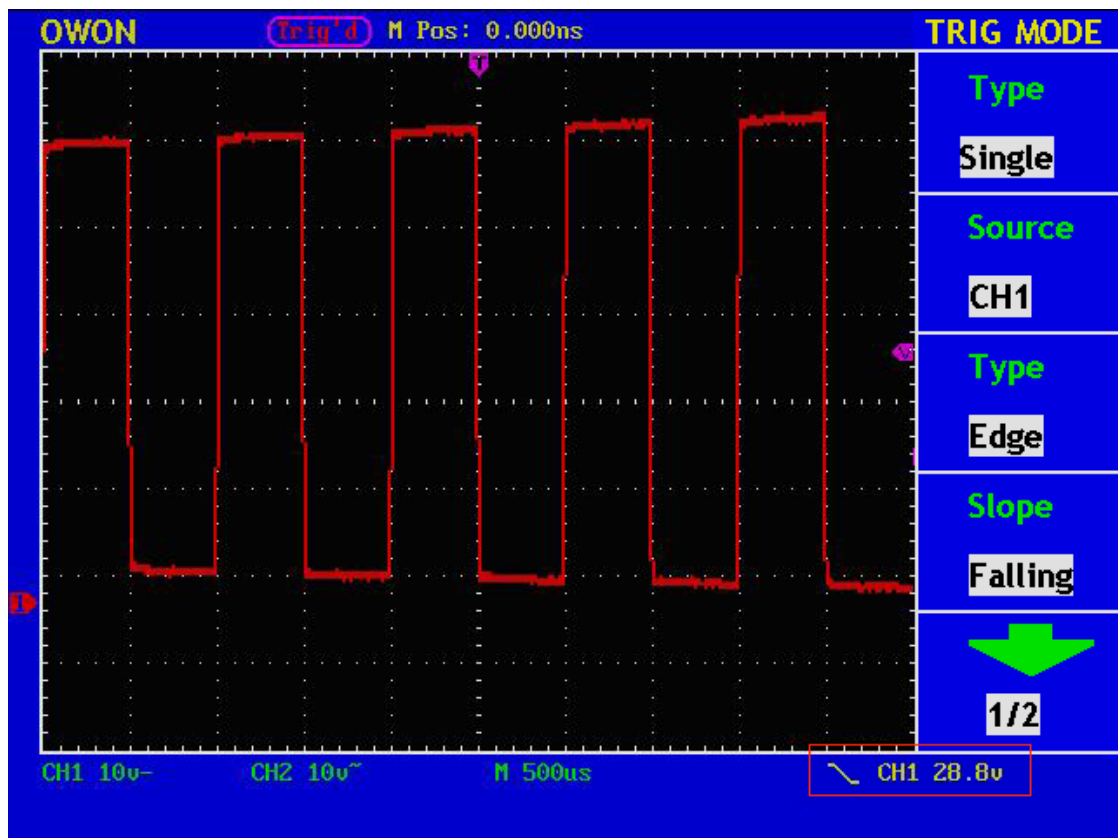

Fig. 29 Wave Form Triggered on the Falling Edge
8. Press the **F1** menu selection button and Press the **F4** menu selection button again, choose Falling for Slope. For the screen display, see Fig. 29.